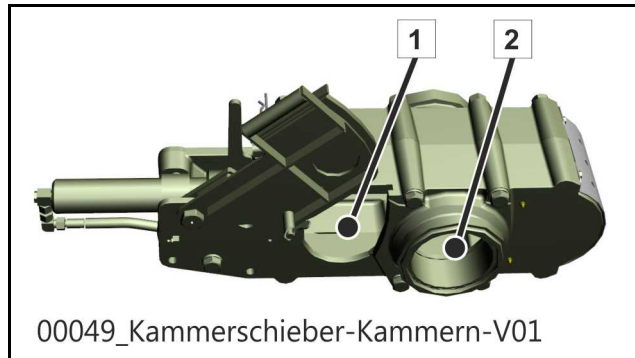

Fig. 469
- Clean the chambers (1+2) (**Fig. 469**) and the exterior of the chamber valve with water.